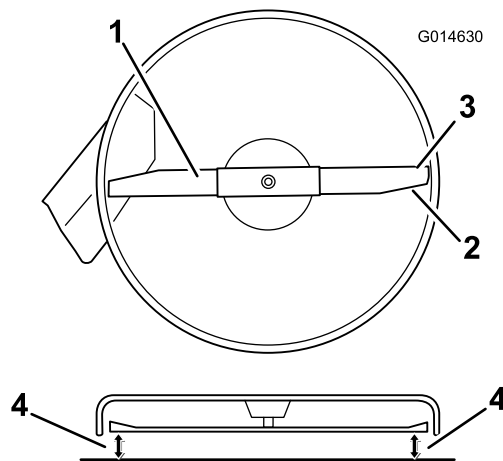

Figure 49
4. Carefully rotate the blade so that they are all side to side (Figure 49).
5. Measure between the outside cutting edges and the flat surface (Figure 49). If both measurements are not within 3/16 inch (5 mm), an adjustment is required; continue with this procedure.